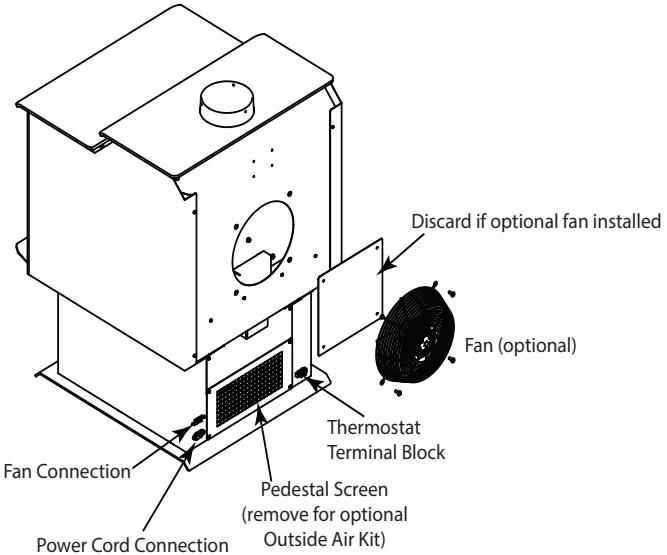

Figure 5.6
5. Locate the square plate on the back center of the appliance. **See Figure 5.6.**